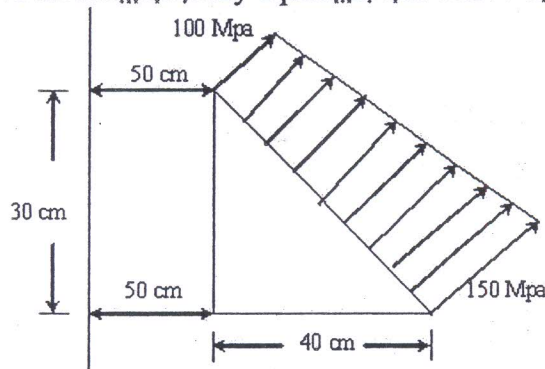

Figure.5
- 5.a) An axisymmetric triangular element is subjected to the loading as shown in Figure.5. the load is distributed throughout the circumference and normal to the boundary. Derive all the necessary equations and derive the nodal point loads.